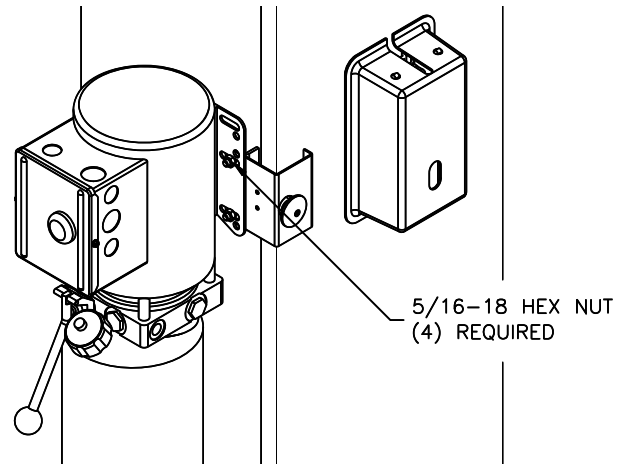

Fig. 10 – Power Unit Mounting
- 19) Mount Power Unit to power column as shown in **Fig. 10**. The mounting hardware, (4) 5/16"-18 hex nuts, are pre-installed on power unit mounting bracket.